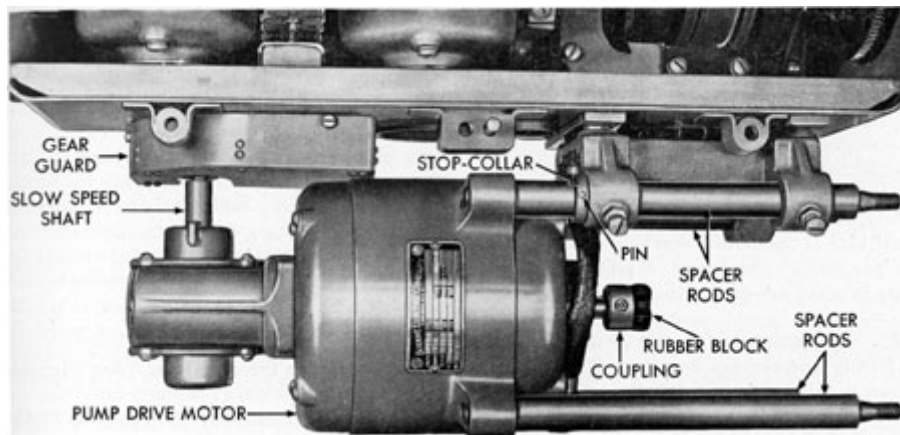

Figure 5-17. Pump drive motor installed.
5E1. Removing the brushes. See Figures 5-17 and 5-18.) Remove the 10 screws that secure the cover on the rotary distance transmitter case and remove the cover. This is necessary in order to make the upper brush accessible. Remove the pipe plug from the bottom of the rotary distance transmitter case. Unscrew and remove the two caps (one on each side of the motor) that secure the brushes in position in the motor. Carefully lift the two brushes out of the motor.
**5E3. Installing the brushes.** (See Figures 5-17 and 5-18.) Place the lower brush in the hole provided in the lower side of the motor. Compress the brush tension spring by hand, and install the cap which secures the lower brush in the motor. Install the upper brush in the hole provided in the top of the motor in the same manner. Install the pipe plug in the hole in the bottom of the rotary distance transmitter case. Install the case cover.
5E4. Removing the armature. (See Figures 5-17 and 5-19.) Remove the pump (see Section 5D3.) Remove the brushes (see Section 5E1). Remove the two screws that secure the gear guard to the rotary transmitter case and remove the gear guard. Loosen the socket head setscrew that
(See Figures 5-17 and 2-8.) Align the two upper spacer rods with the motor mounting bracket, and slide the motor assembly to
(See Figures 5-17 and 5-19.)